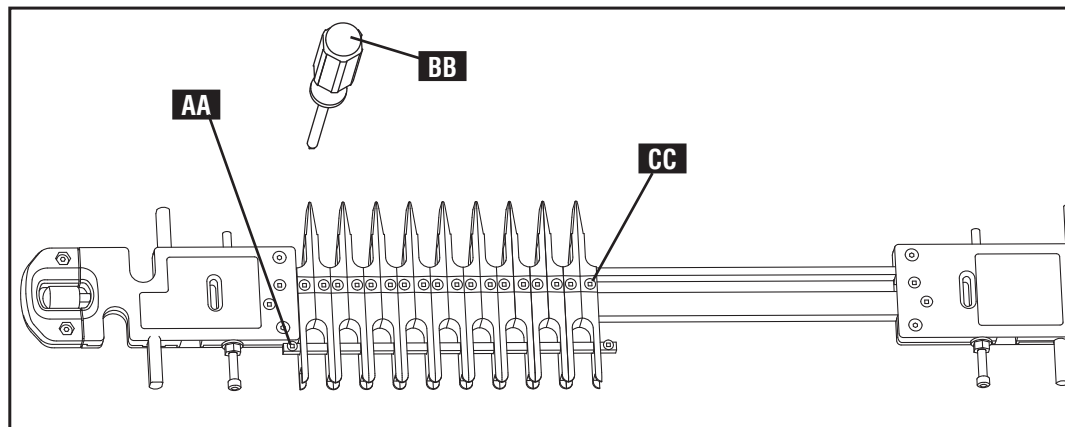

Fig. C14
The variable-spaced template is shipped with the fingers in position to cut single-pass half blind dovetails (as shown in Fig. C14).
To take advantage of the variable spacing functionality, first loosen set screw located at (AA) Fig. C14 with supplied square screwdriver (BB) and slide the bar out. (Be sure to re-attach screw for use later).